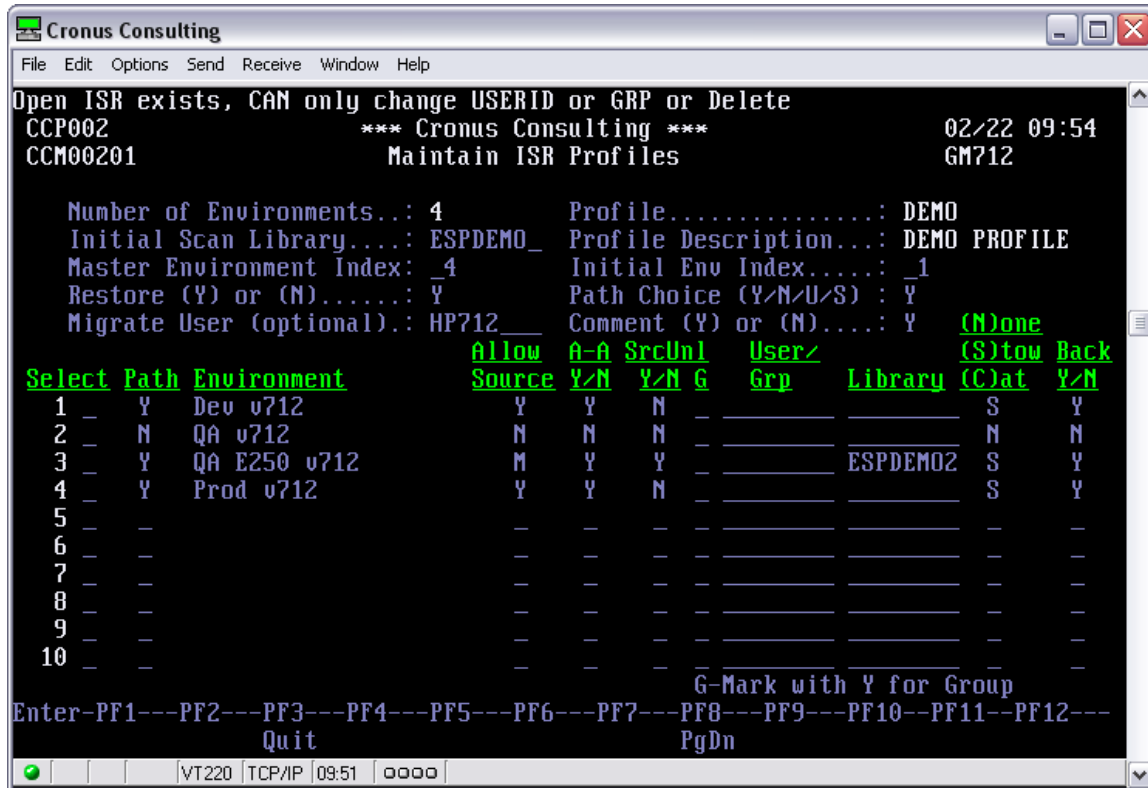

Figure 11: Modification of Open ISR
- **GROUP** must be a valid Group (and not a user). The Group security works the same way as explained in the USERID section directly above. However, the user attempting the migration must from part of the Group linked to the environment. Note, both the **USERID** and **GROUP** are entered in the same column, but if it is a group that has been entered, mark **column G with a Y**. Only the userid and group column may be amended when an open ISR exists against the modified profile. See figure 11 above.